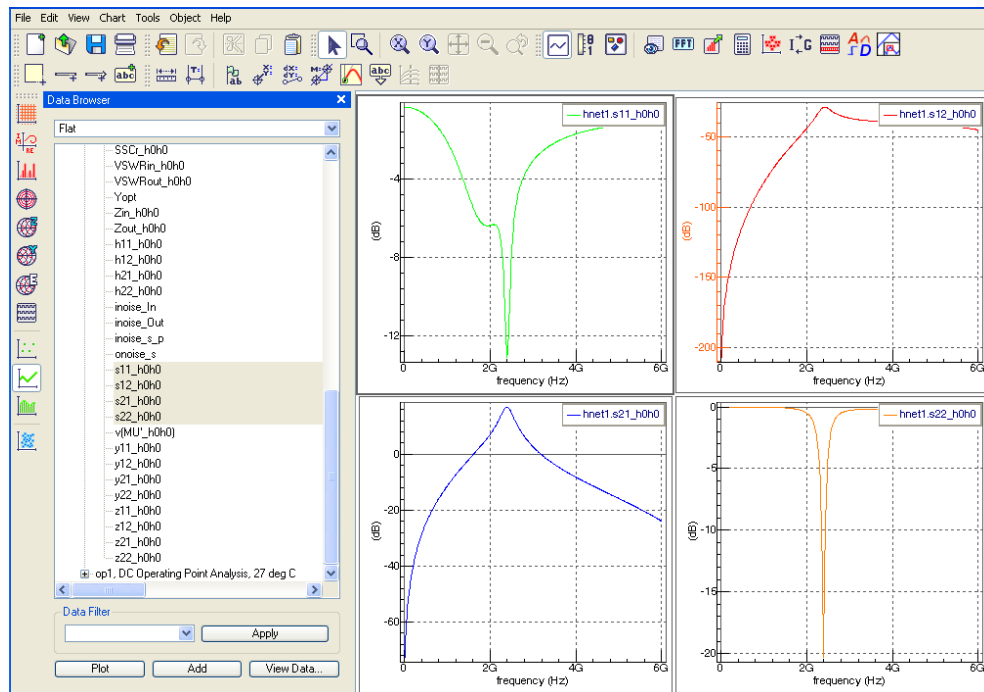

Figure 10: Cartesian Chart of S11, S22, S21), and S12
3.3: Then select **Chart->Split->Split-all/Selected** and **View->Layout->Tile** to get the plot shown in Figure 10. You can also change the grid details, colors, and line width by selecting **Edit->Preferences**.